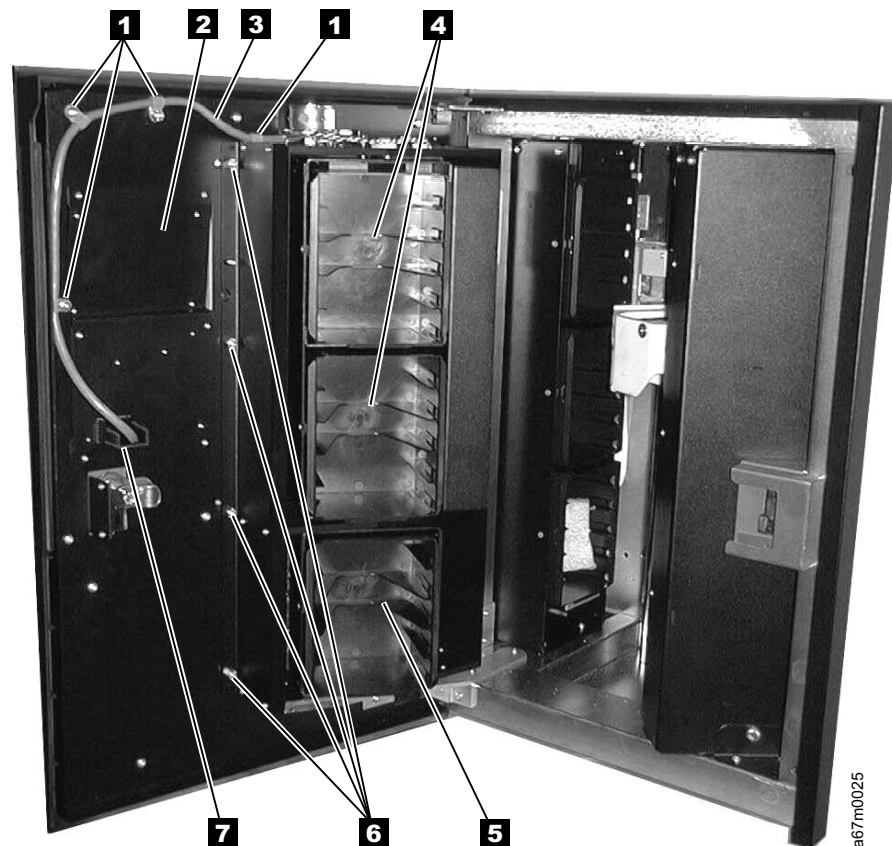

Figure 31. Installing the 12-slot I/O station
5. Remove the four I/O station cable clamps (see **1** in Figure 31). Three of the cable clamps are attached to the door with a T20 Torx screw, and one is attached with a 11/32-in. nut.